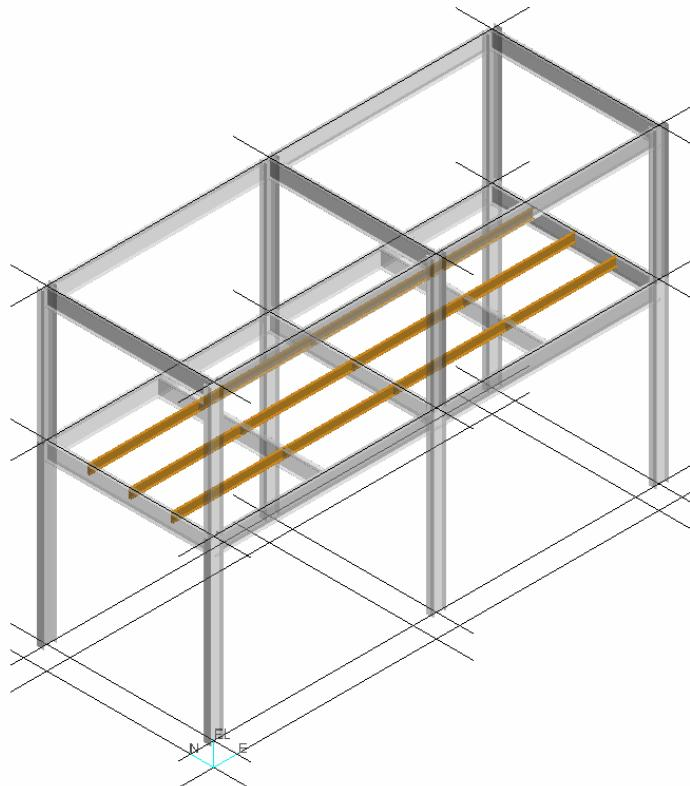

Figure 5 –Isometric View of the Structure Unit 2 System
- 24 Continue using the Place Framing Members command by selecting Supporting Member2 to place framing members as shown in Figure 5.